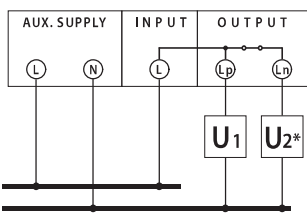

Fig. 1
**F1 (pre-set function): ACOUSTIC SIGNAL AND AUTOMATIC NON-PRIORITY LOADS TRIPPING. (Fig.1)**